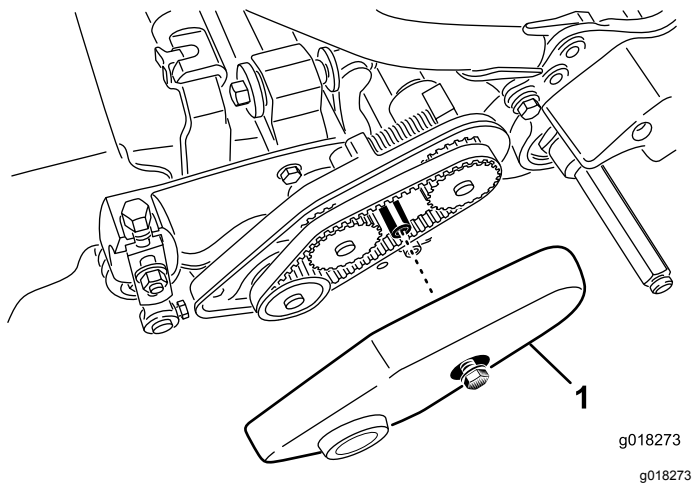

Figure 44
1. Loosen the flange bolt securing the belt cover and remove the belt cover to expose the belt (Figure 44).